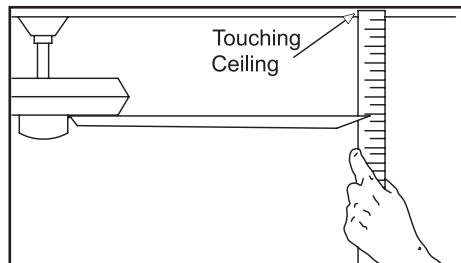

Figure 15
2. Most fan wobble problems are caused when blade levels are unequal. Check this level by selecting a point on the ceiling above the tip of one of the blades. Measure from a point on the center of each blade to the point on the ceiling. Measure this distance as shown in Figure 15. Rotate the fan until the next blade is positioned for measure-